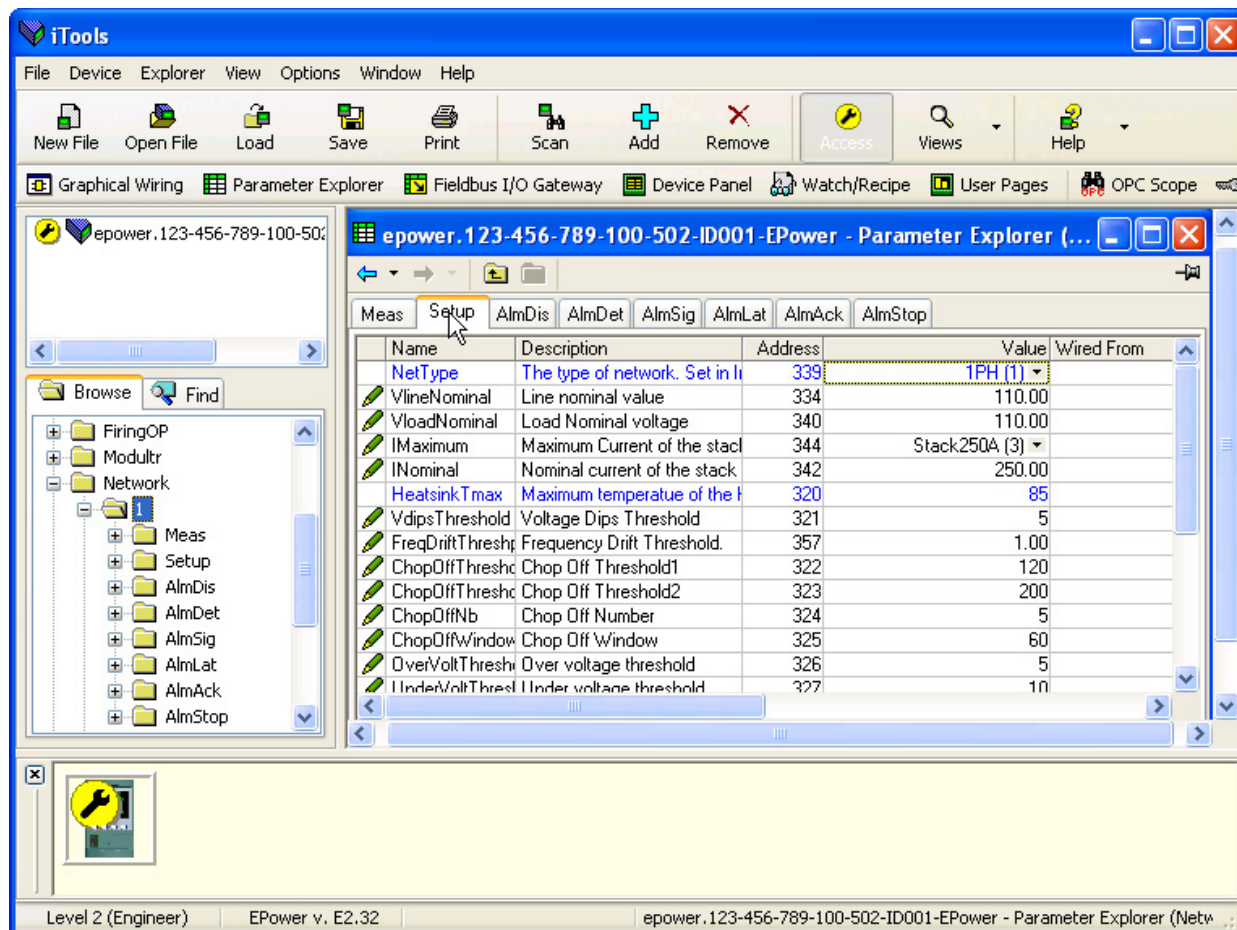
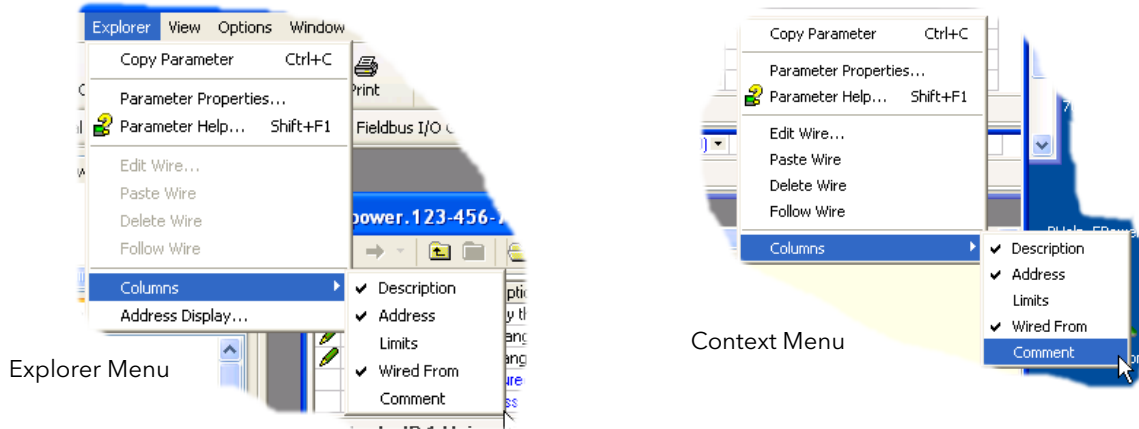

Figure 7.4a Parameter table example
Figure 7.4b Column enable/disable
In each case the function block parameters appear in the iTools window in tabular form, such as the example in figure 7.4a, below.
The figure above shows the default table layout. Columns can be added/deleted from the view using the 'Columns' item of the Explorer or context menus (figure 7.4b).
- Parameters in blue are non-editable (Read only). In the example above all the parameters are read only. Read/write parameters are in black and have a 'pencil' symbol in the 'read/Write access column at the left edge of the table. A number of such items are shown in figure 7.4a, above.
- Columns. The default explorer window (figure 7.4a) contains the columns 'Name', 'Description', 'Address', 'Value', and 'Wired From'. As can be seen from figure 7.4b, the columns to be displayed can be selected, to a certain extent, using either the 'Explorer' menu or the context menu. 'Limits' have been enabled for the example above.
- Hidden Parameters. By default, iTools hides parameters which are considered irrelevant in the current context. Such hidden parameters can be shown in the table using the 'Parameter availability' settings item of the options menu (figure 7.4b). Such items are displayed with a shaded background.
Allows the user to enable/disable a number of parameter table columns (figure 7.4b).